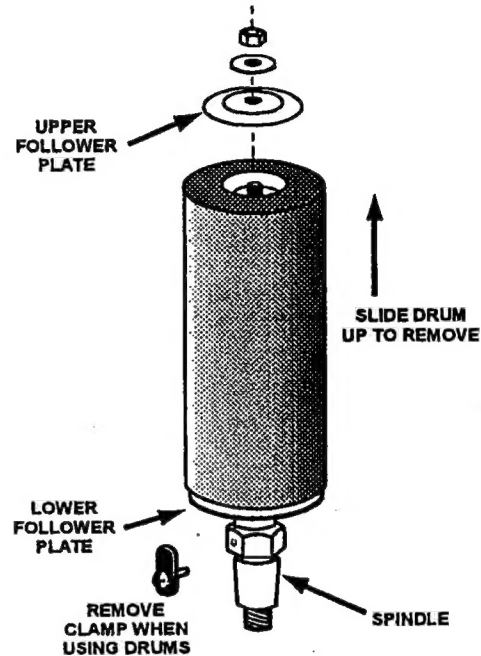

FIGURE 3
1. To remove rubber drum from the 5/8" spindle, unscrew and remove the nut, washer and follower plate at top of spindle as shown in **Figure 3**. (NOTE: Nuts have a left-hand thread; turn *clockwise* to loosen.) Remove the drum by sliding upward.